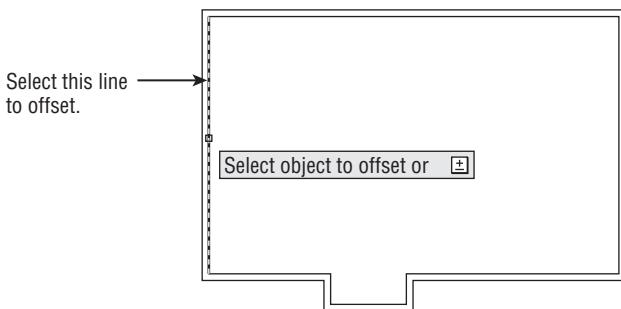

FIGURE 4.15 Selecting the wall line to offset
4. Click the inside line of the left exterior wall (see Figure 4.15).